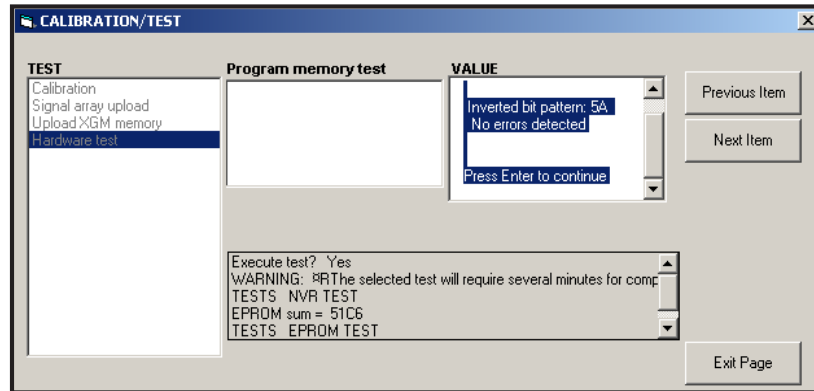

Figure 15: Completion of the NVR Test
4. If the NVR passes the test, the screen appears similar to Figure 15 on page 54. Click [Exit Page] to return to the *Hardware Test* option, and [Exit Page] again to return to the main *Calibration/Test* menu.